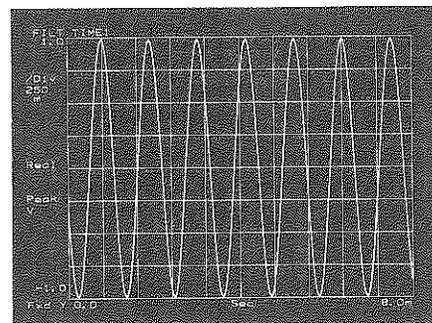

Figure 8-1
- 6. Display Time Record** To display the last time record, press the **MEAS DISP** key, then select the **FILTRD INPUT** (digitally filtered input) softkey. Select the **TIME REC 1** softkey to display the last time record. The display will be similar to Figure 8-1.